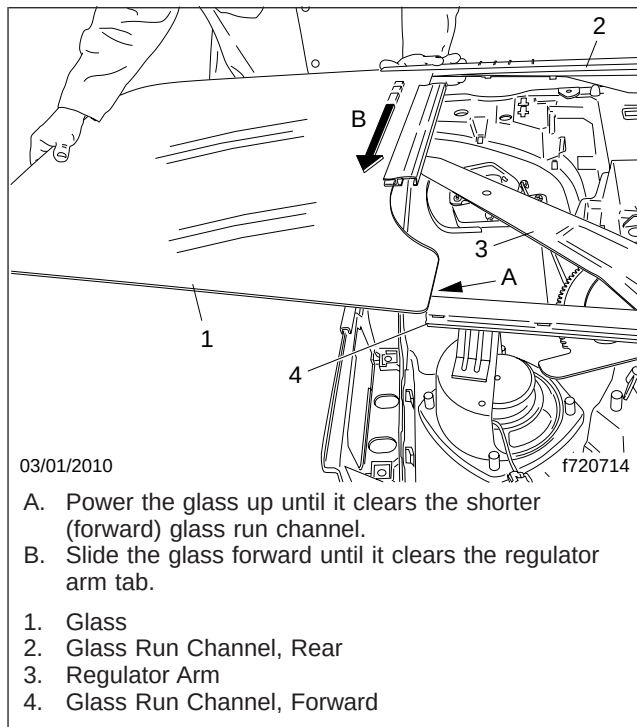

Fig. 1, Removing Glass
8. With the help of an assistant holding the glass, power the glass up until it clears the shorter (forward) glass run channel. See Fig. 1.